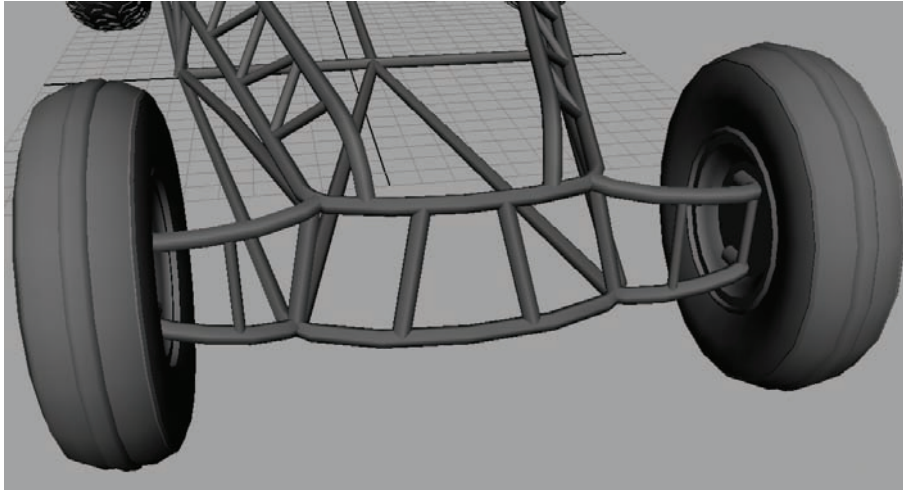

Figure 4.22
29. You can then add two straight support pipes joining the two together. Once you're done with that, you can select all the wheel parts as well as the connector frame that you just made, duplicate them, group them, and mirror them over to the other side (Figure 4.22).